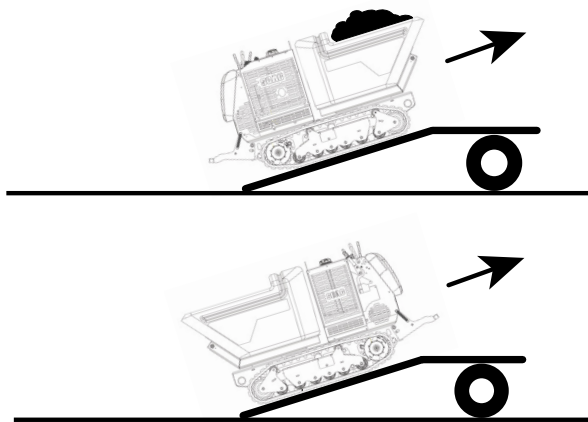

Figure 4-6. Loading Trailer
3. Always load and unload the machine with the heavy end of the machine facing up the ramp. See Figure 4-6 and Section 2.4 for more information.